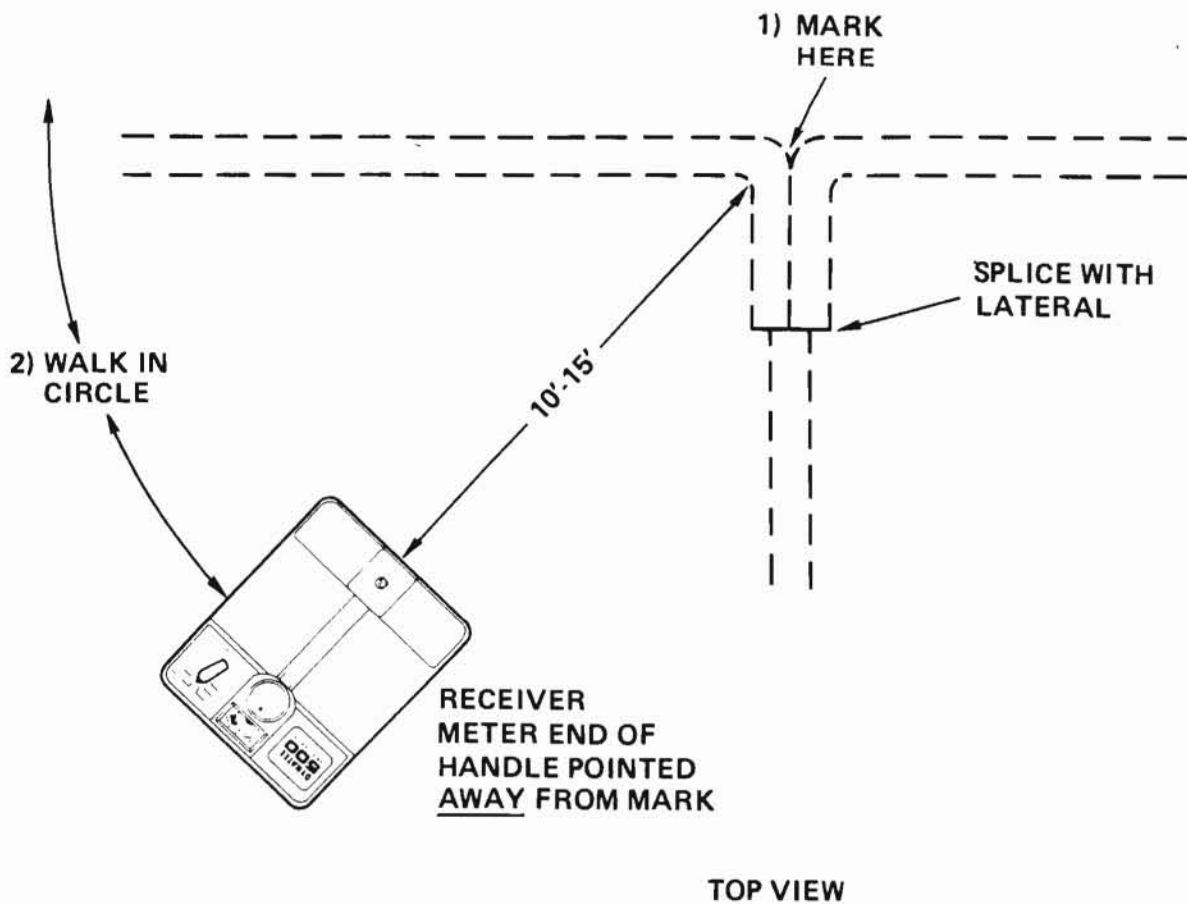

Fig. 12 – Locating Laterals, Drops from Splice, Encapsulation, Riser, etc.
**4.04** To find laterals, splices or drops from any of the places marked, switch the receiver to PEAK mode. Then walk about 10 to 25 ft away from the mark, and circle the mark. BE SURE TO HOLD THE RECEIVER SO THAT THE METER END OF THE HANDLE POINTS AWAY FROM THE MARK. If the receiver is held any other way, it may miss any laterals or service drops. See Fig. 12.